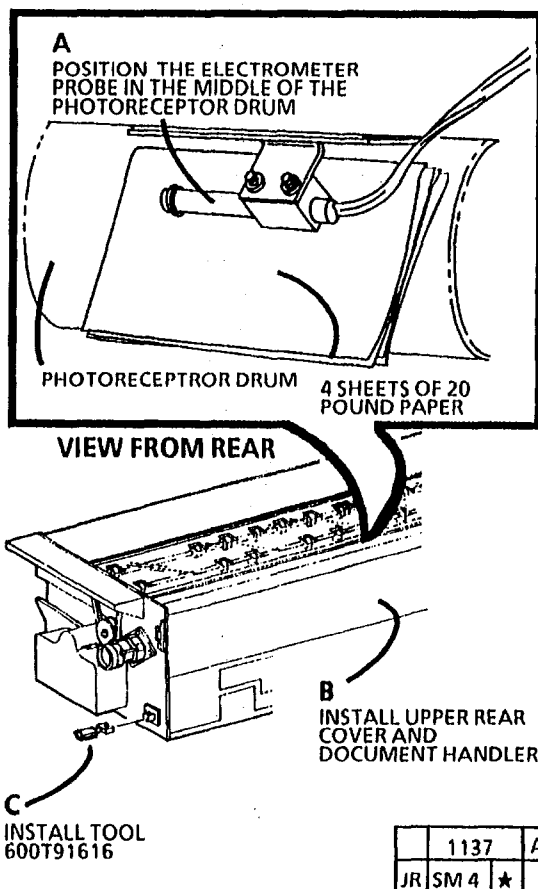

Figure 2. Install the Electrometer Probe
6. (Figure 2): Install the probe holder on the copier frame.